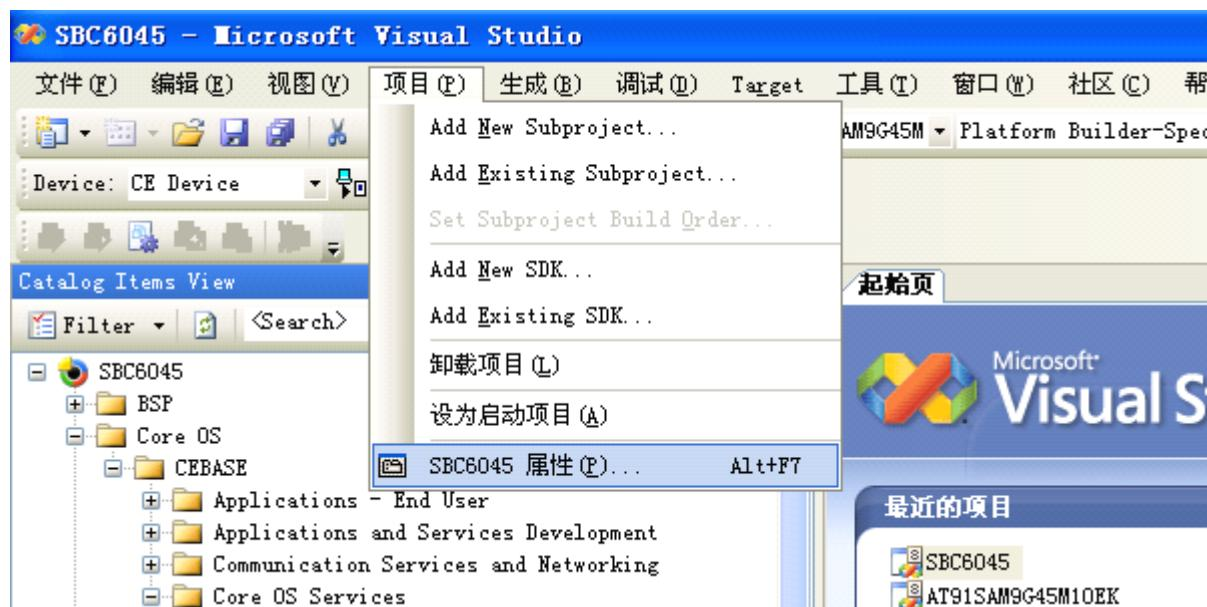

Figure 13.4.13
14. Click Project->SBC6045 properties in VS2005 , see Figure 13.4.13: